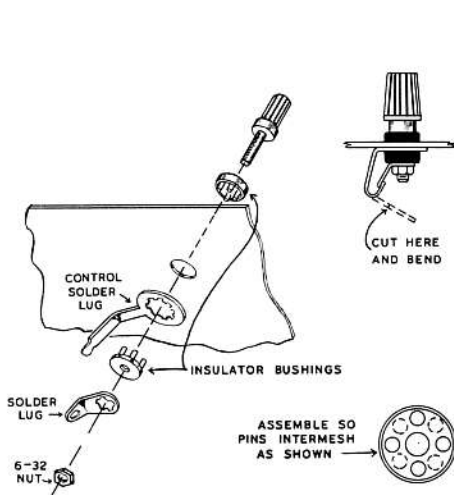

Figure 6
(X) Install the binding posts. Use binding post base, insulator bushings, solder lug and 6-32 nut. See Figure 6. On the one nearest the edge of the panel, include a larger control solder lug between the bushing and the inside of the panel.